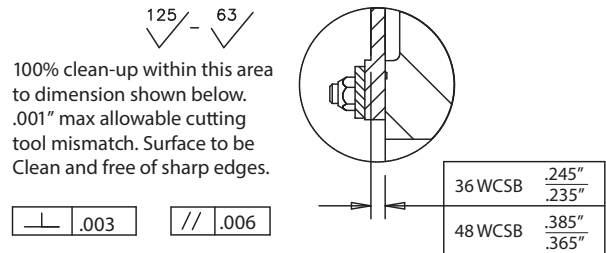

Figure 16
4.5.17 Machining of the wear surfaces is required for the 36WCSB and 48WCSB tensioner / brake assemblies after replacement of the wear plates or the adjoining friction material. See Figure 16 for machining specification. Clean all wear surfaces after machining to remove any residual contaminants.